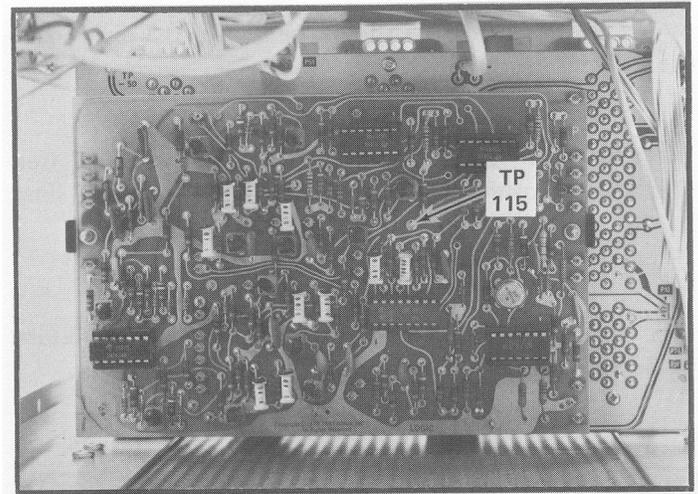

Fig. 5-6. Location of TP115 on Logic circuit board (shown with power-unit removed).
b. Connect the probe tip to TP115 (see Fig. 5-6).